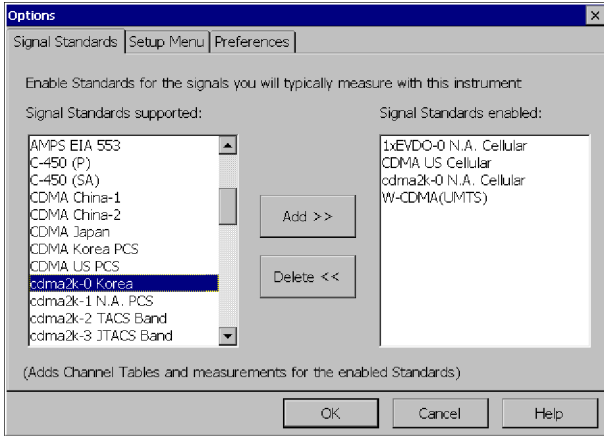

Figure 2-14: The Options window
1. Select **Tools > Options** to display the Options window, shown in Figure 2-14.